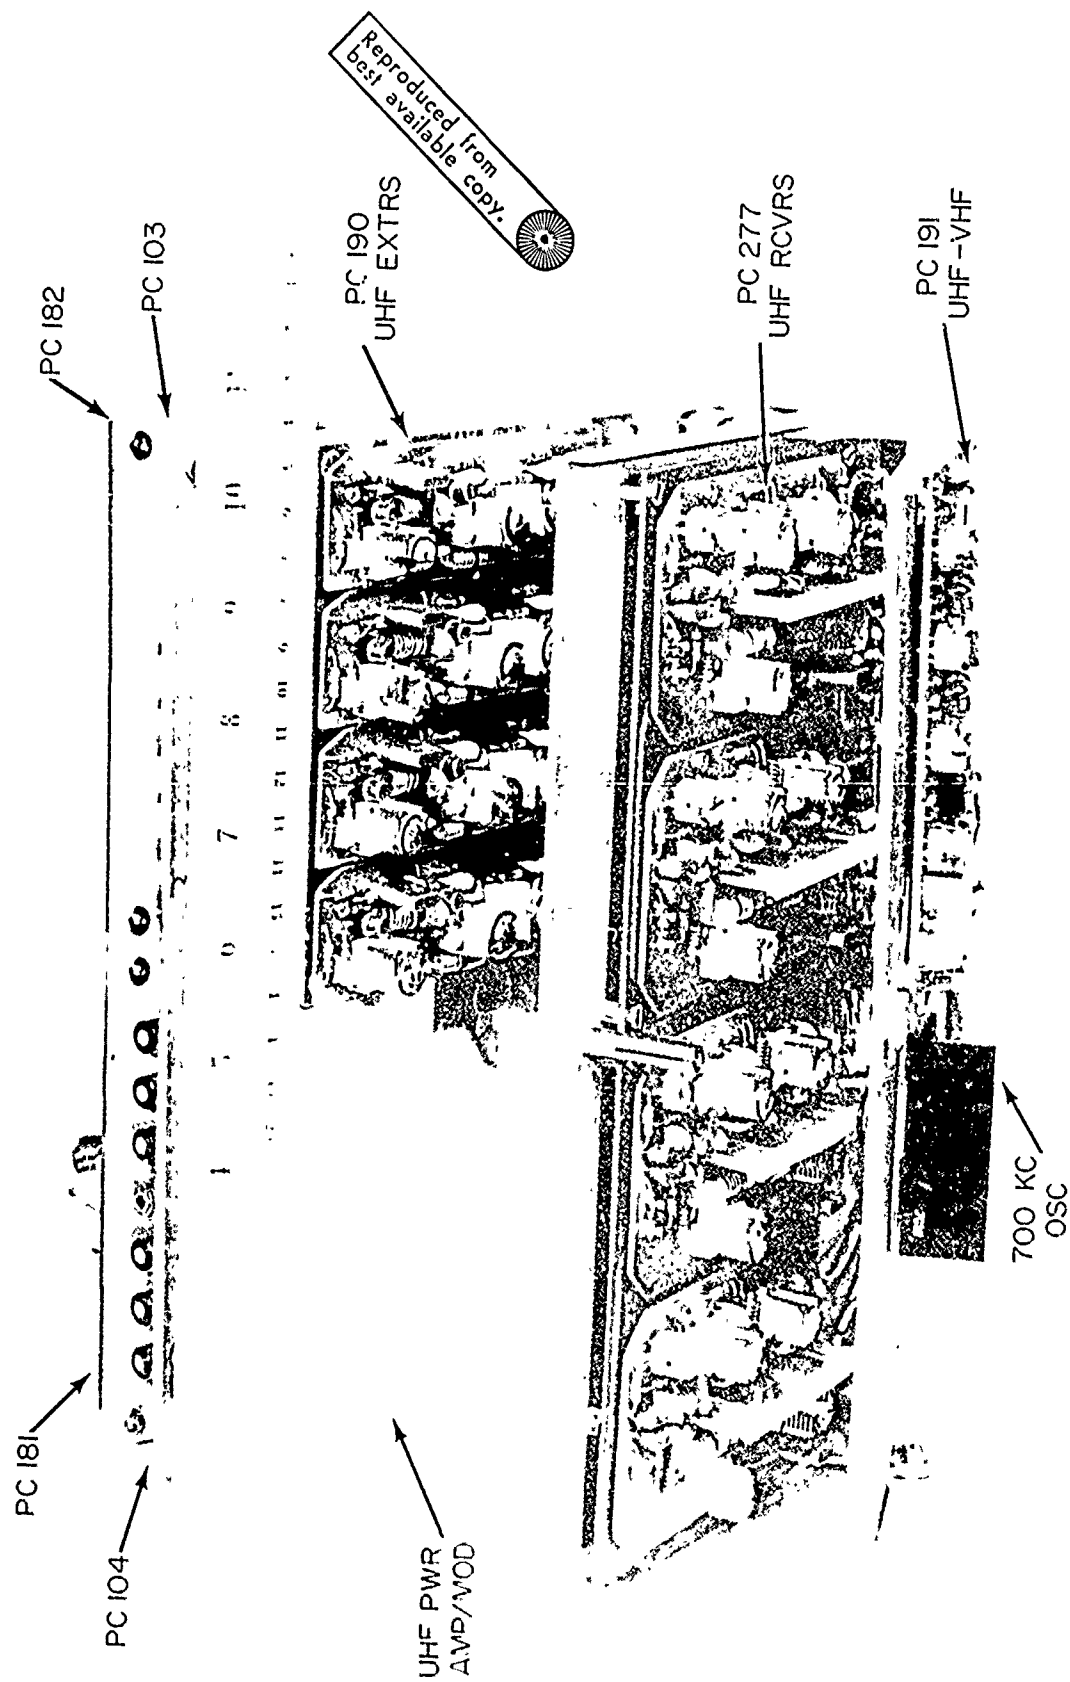

Fig. 4-3. Buoy electronics: UHF side
b. UHF TRANSMITTER - Four PC-190 circuit boards make up the four exciters for the UHF transmitter (Fig. 4-3). Crystal Y1 on PC-190 is the fundamental frequency crystal. The desired operating frequency F_o is three times the crystal frequency F_x , as shown by
c. UHF RECEIVER - Crystal Y1 of PC-277 (Fig. 4-3) is the first heterodyne crystal for the UHF receiver, and its frequency determines the operating frequency of the UHF channel. Each PC-277 forms the front end of a channel.